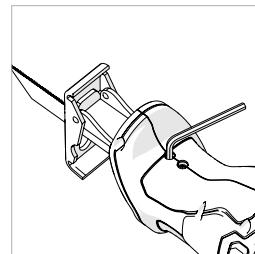

Fig. 4
- 1) Loosen the 2 screw grub under the front handle. **(Fig.4)**